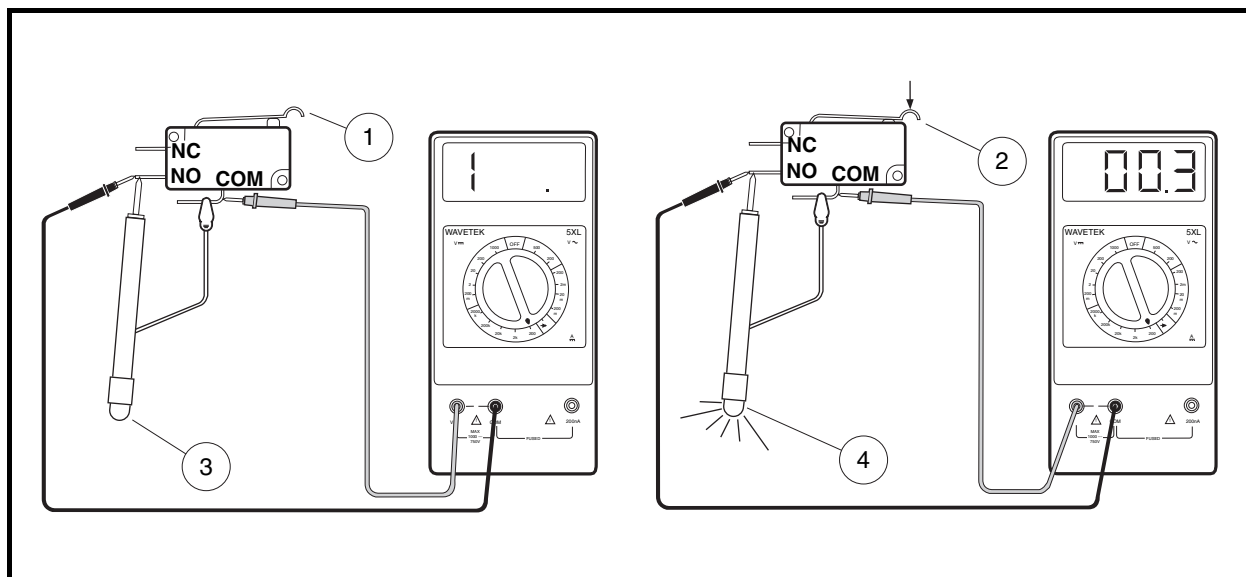

Figure 12-12 Neutral Lockout Limit Switch Test
3. Set the multimeter to 200 ohms. Place the red (+) probe of the multimeter on the common (COM) terminal of the limit switch. Place the black (–) probe on the normally open (NO) terminal of the switch. Without the lever pressed, the reading should be no continuity. Press the lever, and the reading should be continuity. If either reading is incorrect, replace the limit switch (**Figure 12-12, Page 12-16**).